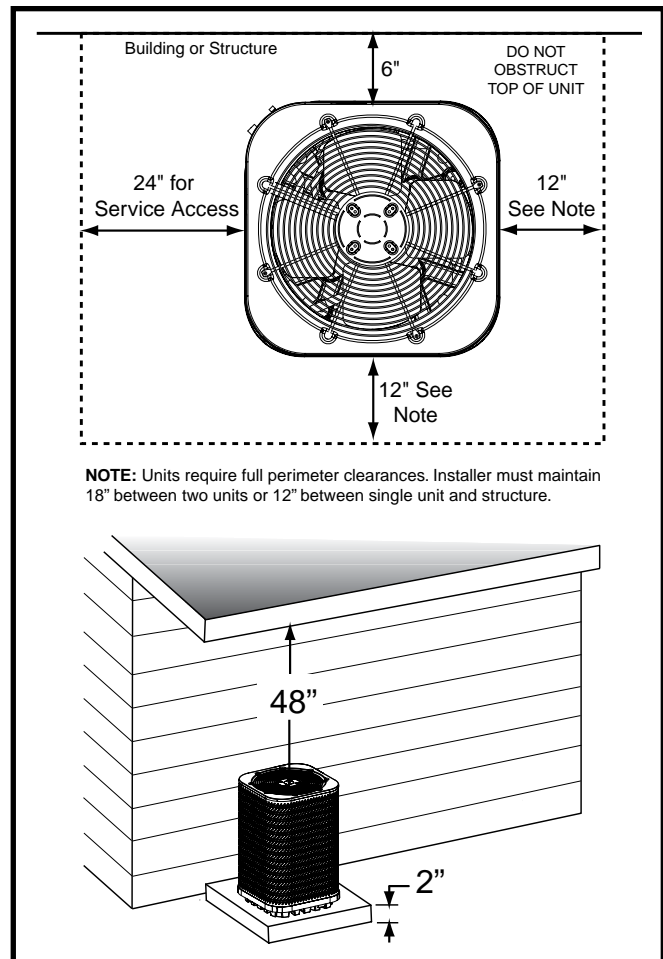

Figure 1. Clearance Requirements
- Overhead obstructions (Figure 1), poorly ventilated areas, and areas subject to accumulation of debris should be avoided.
- Sufficient clearance for unobstructed airflow through the outdoor coil must be maintained in order to achieve rated performance. See Figure 1 for minimum clearances to obstructions.
- Clearances must be in accordance with those shown in Figure 1.
- A suitable mounting pad must be provided and be separate from the building foundation. The pad must be level and strong enough to support the unit's weight. The slab height must be a minimum of 2" (5 cm) above grade and with adequate drainage. See Figure 1.